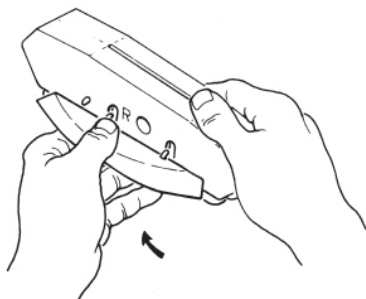

Figure 10
- Remove the old wings by bending the wings up toward the sides of the cleaner, and lift them off their hooks (*see Figure 10*). If any of the wing hooks are broken, take the Navigator to your dealer for pod replacement as the unit will not function properly if the wings are not properly attached.